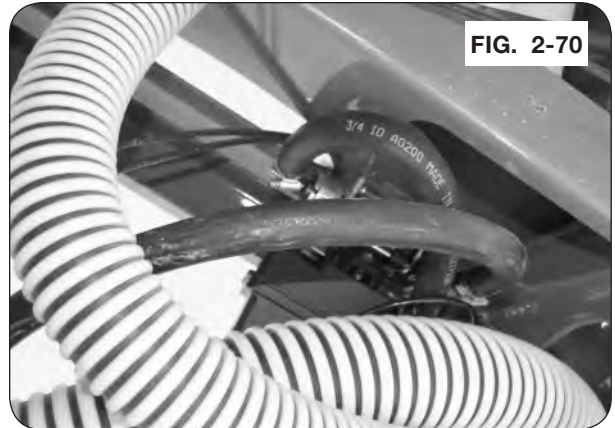

FIG. 2-70
27. Route the hose to the electric ball valve and cut to length and attach to electric ball valve. (FIG. 2-70)